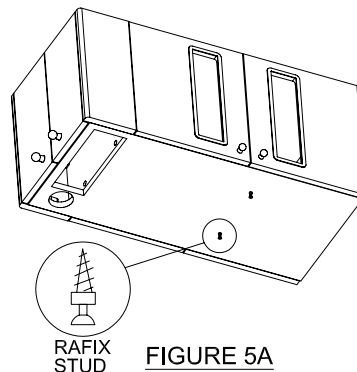

FIGURE 5A
Make sure the (2) Rafix studs are screwed into the bottom of the upper storage. See Figure 5A.